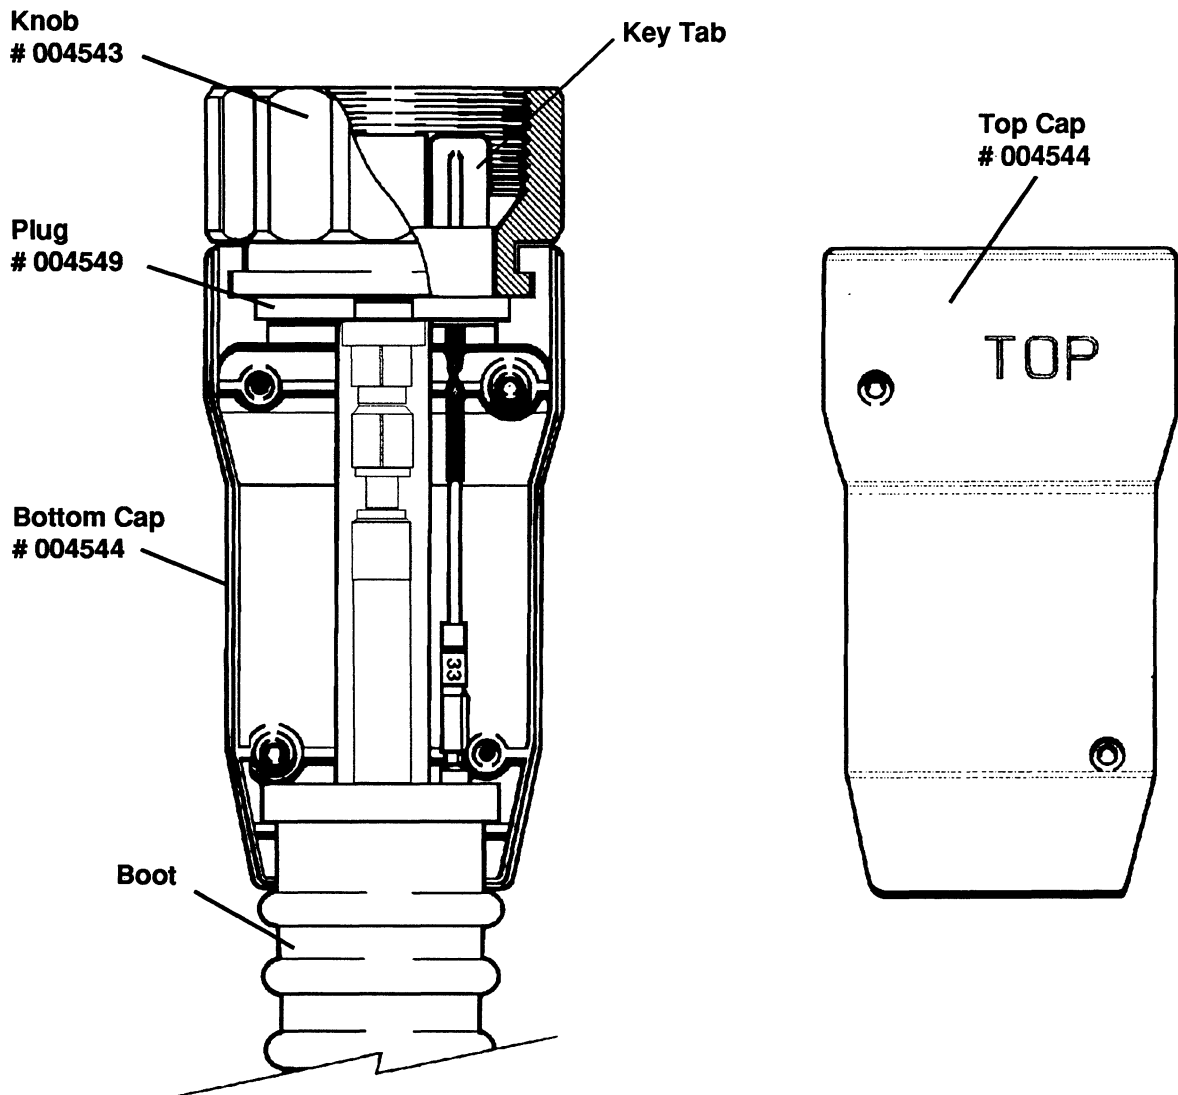

Figure1 MAX80/100 Plug, Knob and Cap Installation
1. Remove the four (4) screws holding the cap halves together. Discard the caps. Save the four (4) screws for use in step 6.
3. Holding the bottom cap half (top half is marked TOP), place the knob and plug into their respective slots at bottom of cap (see Figure 1). **Ensure the small lead (pilot arc) on the plug is on top and the key tab is on the right.**
6. Align top cap half with the bottom cap half and secure with four (4) screws .